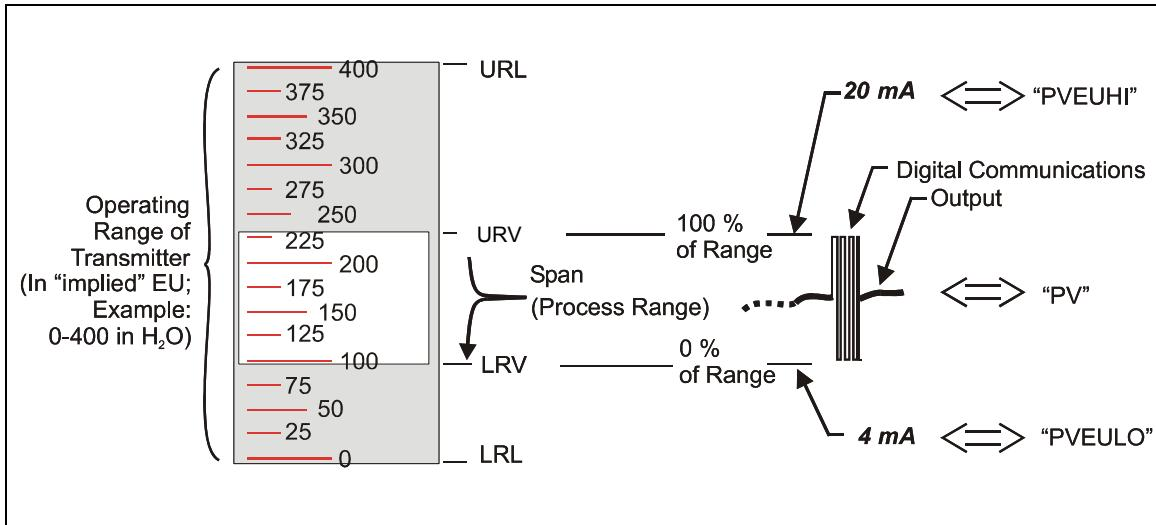

Figure 2-2 Honeywell Analog Value Scaling
As indicated at key number (4) in Figure 2-2, the Honeywell Smart Transmitter includes a path for digital communications between the sensor (via the microprocessor) and the 4-20 mA current loop that connects the transmitter to external communications devices such as process control equipment ("receiver") and/or to a MC Toolkit.
The diagram in Figure 2-2 provides an overview of a Honeywell transmitter operating in the analog mode.
The vertical scale at the left of Figure 2-2 is an example of the available range (LRL to URL) of a pressure transmitter sensor as built and characterized at the factory. The area of this scale that is highlighted in white represents the configured process operating range (LRV to URV) - in this case, from 100 in H2O to 225 in H2O.
Note that Engineering Units (EUs) shown in Figure 2-2 are included here only for reference. The transmitter does not perform any conversion of the base units' value to Engineering Units. All conversion to EUs is performed in the MC Toolkit and/or in other receiving devices such as operating panels associated with control equipment. Default conversion is to inches-H2O @39°F.)
At the right of Figure 2-2, "PVEULO", "PV", and "PVEUHI" are examples of parameter names that appear on Honeywell control equipment, which are used as follows.
As indicated at the right of Figure 2-2, communications between the MC Toolkit and the Honeywell Smart Transmitter consist of digital pulse strings, with rapid transitions of current level between (approximately) 4 mA and 20 mA.